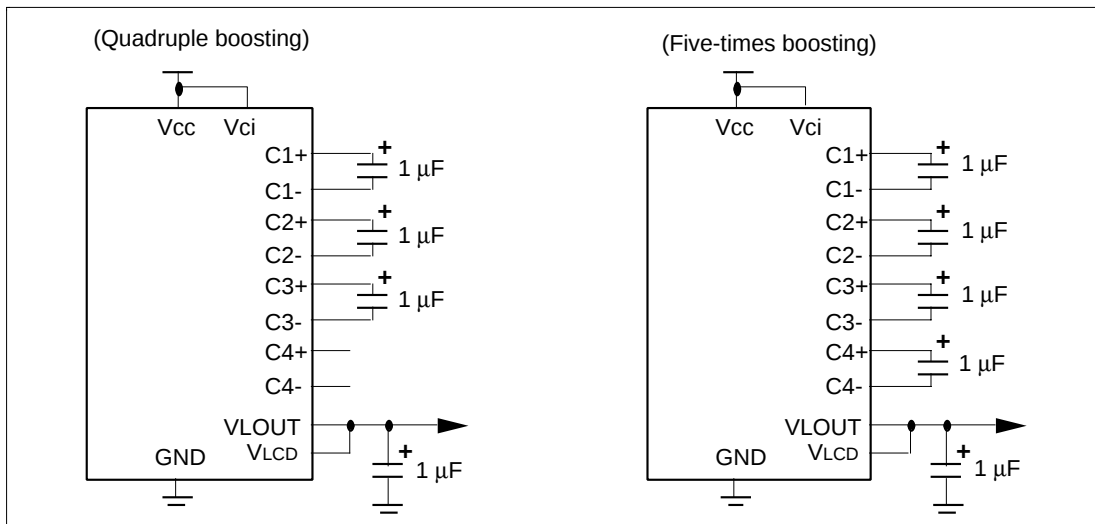

Figure 45 Booster
12. Booster characteristics test circuits are shown in figure 45.